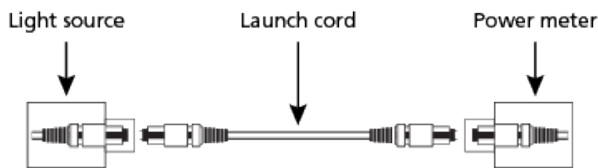

Figure 7. Set the reference 2. Attach the launch cord and receive cord to the cabling under test (see Figure 8).
1. Set a reference between the light source and power meter using the launch cord (see Figure 7).